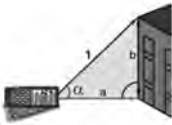

Fig. 12: Distance test with trigonometric calculation
3. Position the instrument in the point (1) corresponding to the value of the desired measuring angle " $\alpha$ " (varying between  $\pm 65^\circ$  with transversal tilt not higher than  $\pm 10^\circ$ ) shown on the first display and press the  key or the side **MEAS** key (see Fig. 12)
4. The value of distance "1" is shown on the resulting display. The value of distance "a" is shown on the third display, calculated as:  $a = (1) * \cos\alpha$ . The value of distance "b" is shown on the second display, calculated as:  $b = (1) * \sin\alpha$  (see Fig. 12)